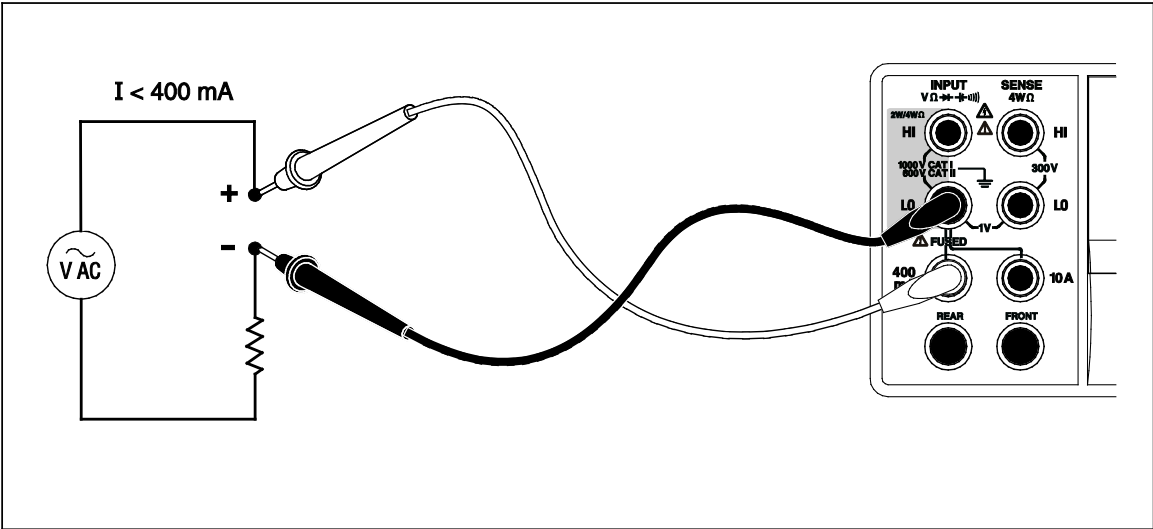

Figure 4-4. Input Connections for Current Measurements Below 400 mA
The Meter is capable of making both ac and dc current measurements up to 10 A. Two separate input connectors, in conjunction with the **LO** connector, are used for current measurements. For best resolution, current measurements not exceeding 400 mA should be made using the **LO** and **mA** input connectors as shown in Figure 4-4.
1. Connect the test leads between the Meter’s input connectors and the measured circuit as shown in Figure 4-4 for currents 400 mA or less or Figure 4-5 for currents up to 10 amps.
1. Connect the test leads between the Meter’s input connectors and the measured circuit as shown in Figure 4-4 or Figure 4-5, based on the anticipated level of current.